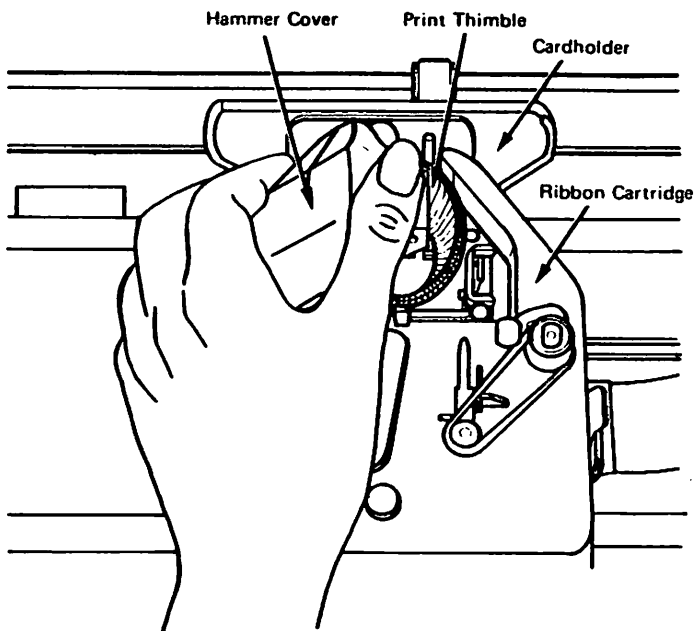

Figure 37 Lifting the hammer cover
2. Lift the hammer cover from its right side (Figure 37).